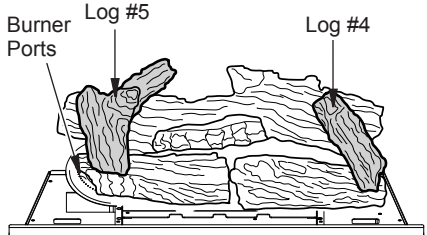

Figure 19 - Installing Logs 4 and 5
4. Install the recessed hole on the bottom of log 4 onto the pin on log 1 and place onto log 3 (see Figure 19).
5. Install the recessed hole on the bottom of log 5 onto the pin on log 1 and place onto log 2 (see Figure 19).
**IMPORTANT:** Make sure logs do not cover any burner ports (see Figure 19). It is very important to install the logs exactly as instructed. Do not modify logs. Use only logs supplied with heater.